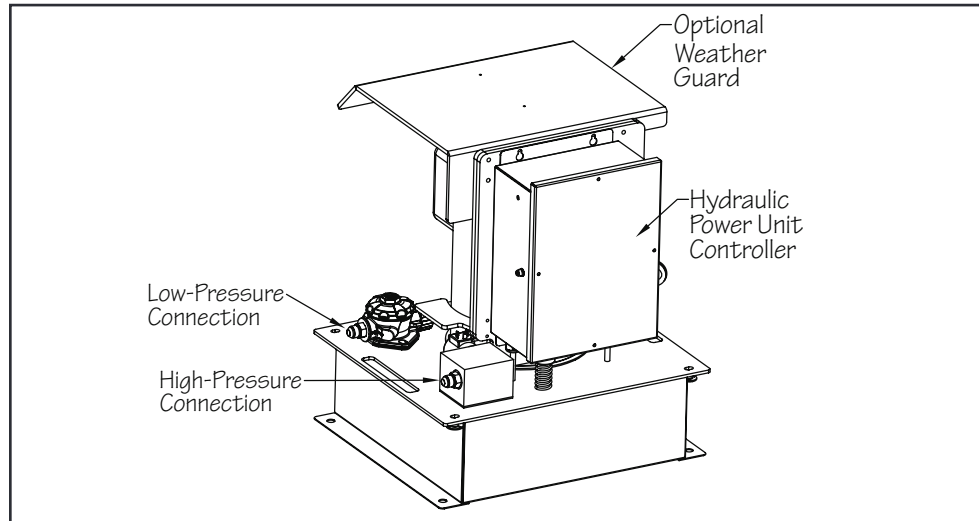

Fig. 10.1
10.1 The Hydraulic Power Unit should be placed on a flat, level surface. If placing the unit outside, it is recommended that the optional weather guard be purchased (Fig. 10.1), but should not be subject to driving rain. If placing the unit indoors and at a level below the pool deck, such as a basement, a floor drain is mandatory to accommodate the unlikely event of a hole developing in the hydraulic hose creating a siphon. Whether placed indoors or out, this is an air-cooled unit and must have ample ventilation. Therefore, a minimum of 12" (30cm) air space must be provided on all sides of the power unit motor. In addition, while frequent access is not required, it is imperative the power unit is accessible. Access to the power unit controller is essential.